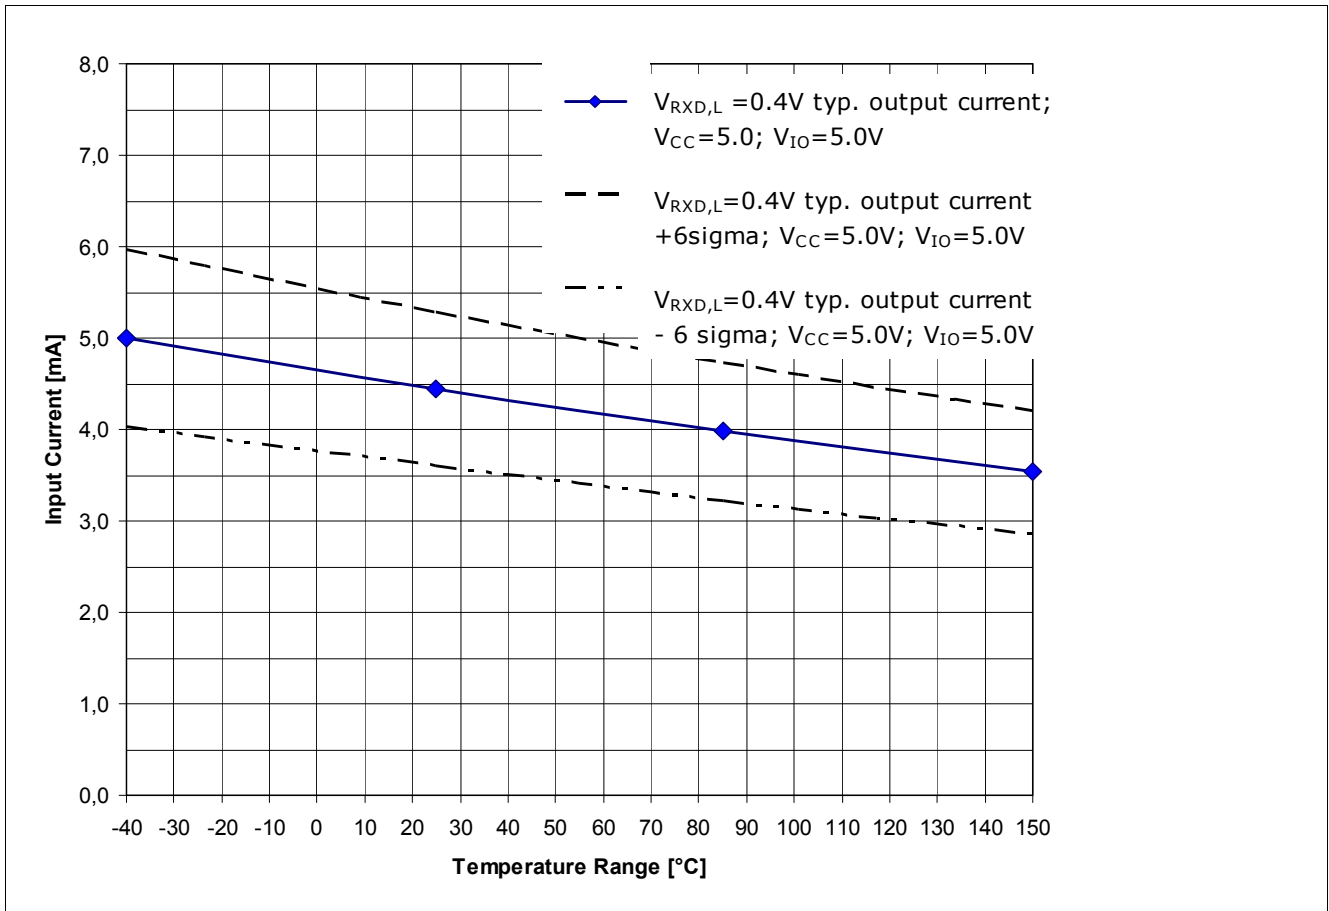
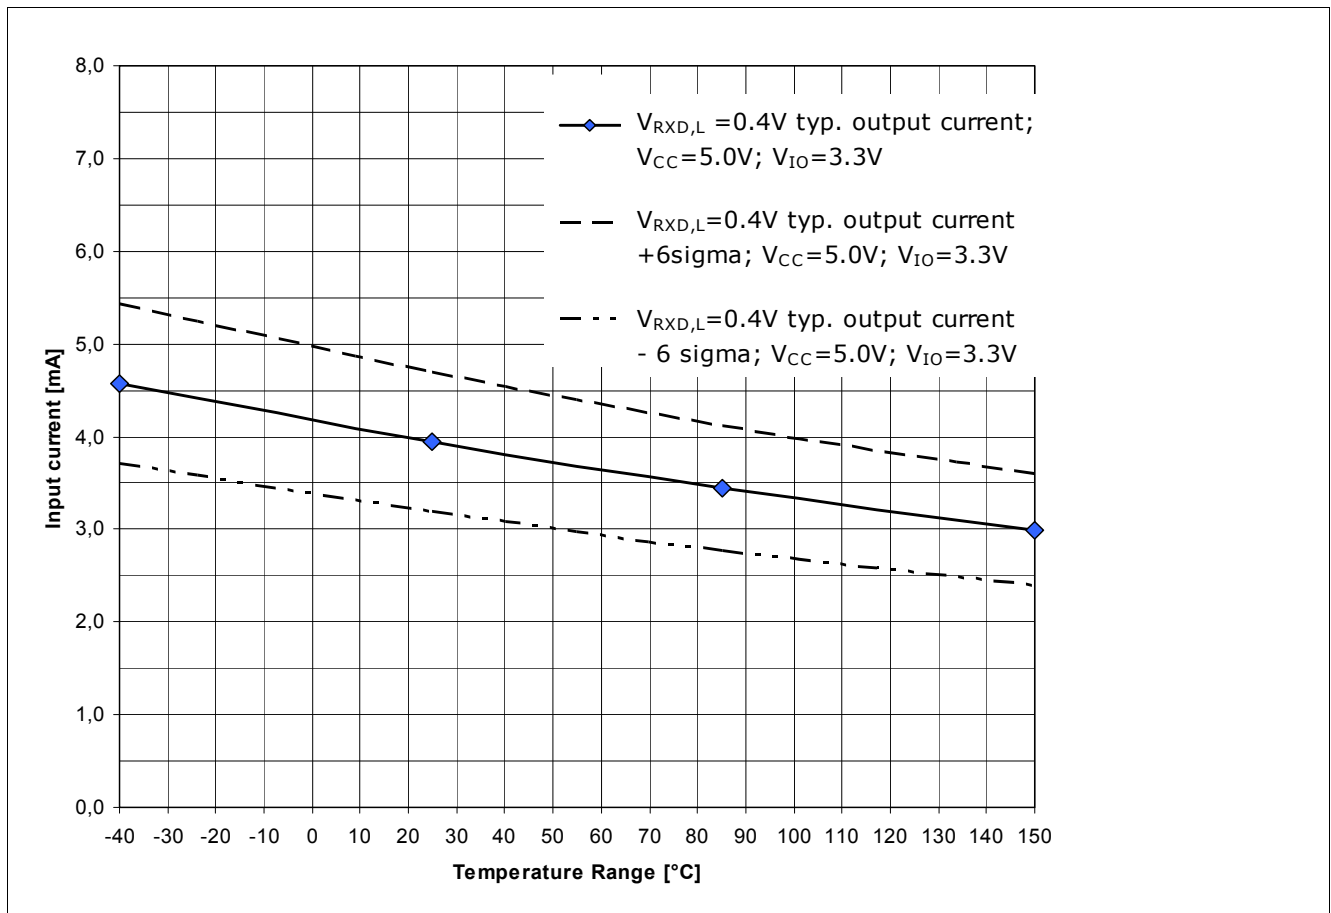

Figure 13 RxD Output driver capability for a logical “Low” signal ($V_{RxD,H}=0.4\text{ V}$, $V_{CC}=5.0\text{ V}$, $V_{IO}=5.0\text{ V}$ ¹⁾)
Figure 14 RxD Output driver capability for a logical “Low” signal ($V_{RxD,H}=0.4\text{ V}$, $V_{CC}=5.0\text{ V}$, $V_{IO}=3.3\text{ V}^1$)
The diagram in Figure 13 and the diagram in Figure 14 show the input current capability of the RxD output pin depended on the chip temperature T_J . Figure 13 shows the input current capability of the RxD output pin at a V_{IO} power supply of 5.0 V and Figure 14 shows the input current capability of the RxD output pin at a V_{IO} power supply of 3.3 V.
- The curve “ **$V_{\text{RxD,H}} = 0.4$ V; typical input current; $V_{\text{CC}} = 5.0$ V; $V_{IO} = 5.0$ V;**” displays the typical input current at the RxD output pin of the TLE8250GVIO (see Figure 13).
- The curve “ $V_{\text{RxD,H}} = 0.4 \text{ V}$; **typical input current + 6 sigma**; $V_{\text{CC}} = 5.0 \text{ V}$; $V_{\text{IO}} = 5.0 \text{ V}$,” displays the expected maximum value of the input current at the RxD output pin (see Figure 13).
- The curve “ $V_{\text{RxD,H}} = 0.4 \text{ V}$; **typical input current - 6 sigma**; $V_{\text{CC}} = 5.0 \text{ V}$; $V_{\text{IO}} = 5.0 \text{ V}$,” displays the expected minimum value of the input current at the RxD output pin (see Figure 13).
- The curve “ $V_{\text{RxD,H}} = 0.4 \text{ V}$; **typical input current**; $V_{\text{CC}} = 5.0 \text{ V}$; $V_{\text{IO}} = 3.3 \text{ V}$,” displays the typical input current at the RxD output pin of the TLE8250GVIO (see Figure 14).
- The curve “ $V_{\text{RxD,H}} = 0.4 \text{ V}$; **typical input current + 6 sigma**; $V_{\text{CC}} = 5.0 \text{ V}$; $V_{\text{IO}} = 3.3 \text{ V}$,” displays the expected maximum value of the input current at the RxD output pin (see Figure 14).
- The curve “ $V_{\text{RxD,H}} = 0.4 \text{ V}$; **typical output current - 6 sigma**; $V_{\text{CC}} = 5.0 \text{ V}$; $V_{\text{IO}} = 3.3 \text{ V}$,” displays the expected minimum value of the output current at the RxD output pin (see Figure 14).